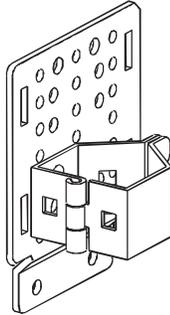

Figure 10
8.5 For UCC Strain-relief, follow the instructions supplied with the UCC kit for specific cable installation procedures (Figure 10).